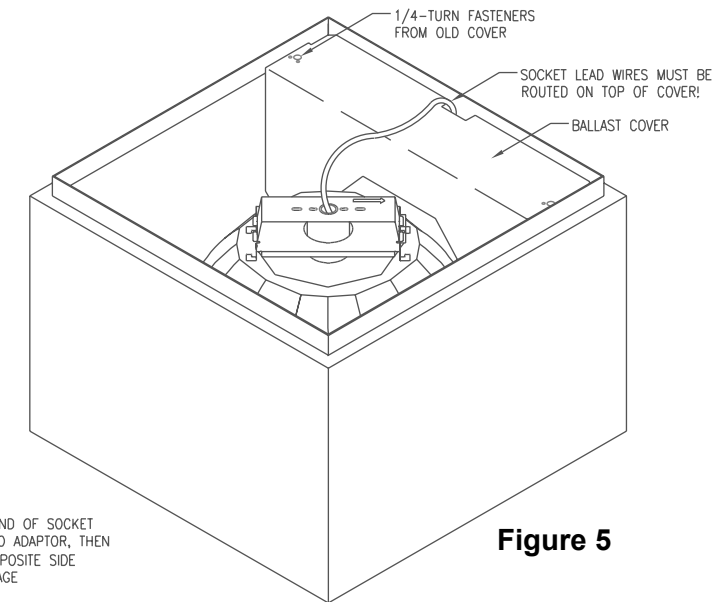

Figure 5
18. Locate new ballast cover packed in *bottom of outer reflector carton*. Locate 1/4-turn fasteners (removed in Step 2); snap them into outermost holes of new cover. Install new cover. Make sure socket lead wires run over TOP of cover - not underneath it! Secure cover to brackets using 1/4-turn fasteners. See Figure 5.
20. Install top cover by evenly tightening (4) screws, making sure safety cable is not pinched.